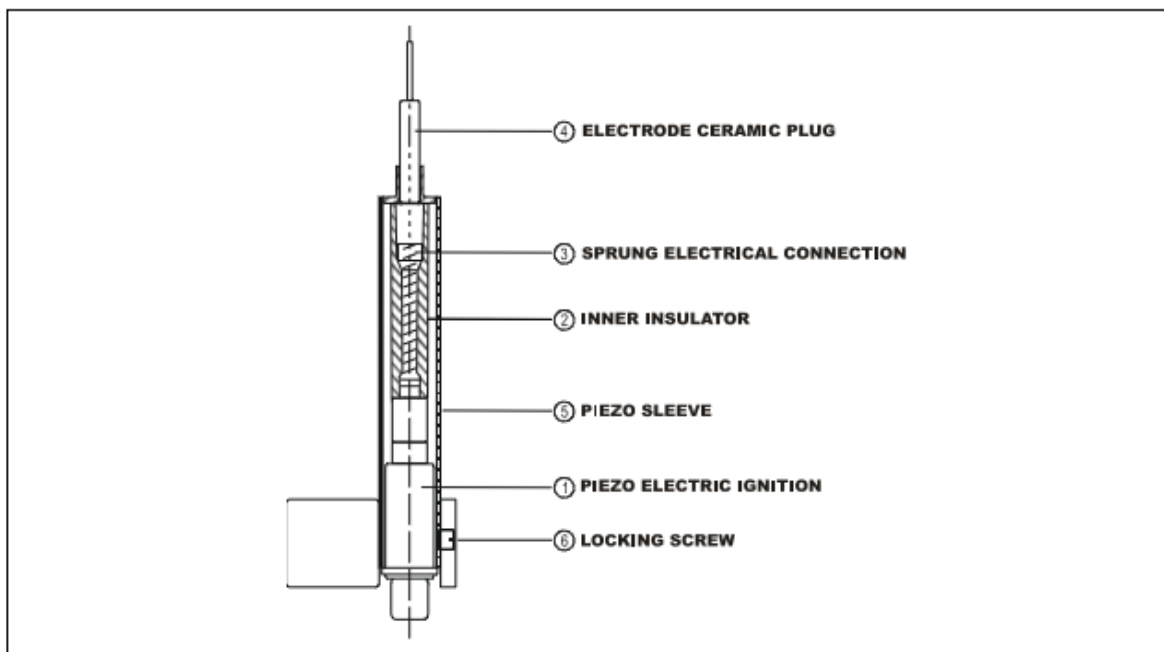

FIG. 6.28
- 1) Refer to Section 6.27 B except use FIG. 6.28 for proper components order.